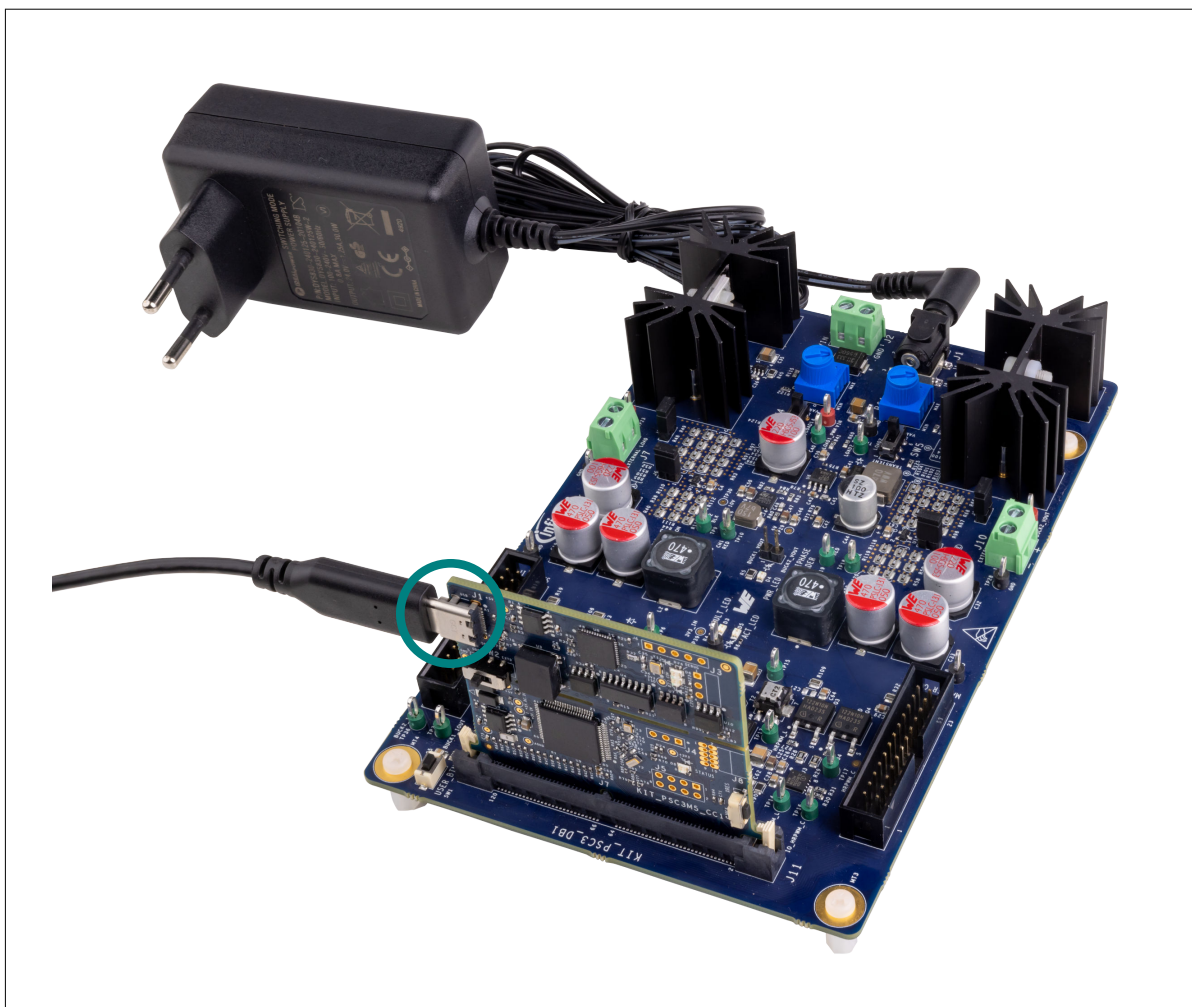

Figure 5 Connect USB cable to USB connector on the Control Card
1. Connect the board to the PC using the provided USB cable through the J-Link USB connector, as shown in Figure 5. It enumerates as a USB composite device if you are connecting it to your PC for the first time